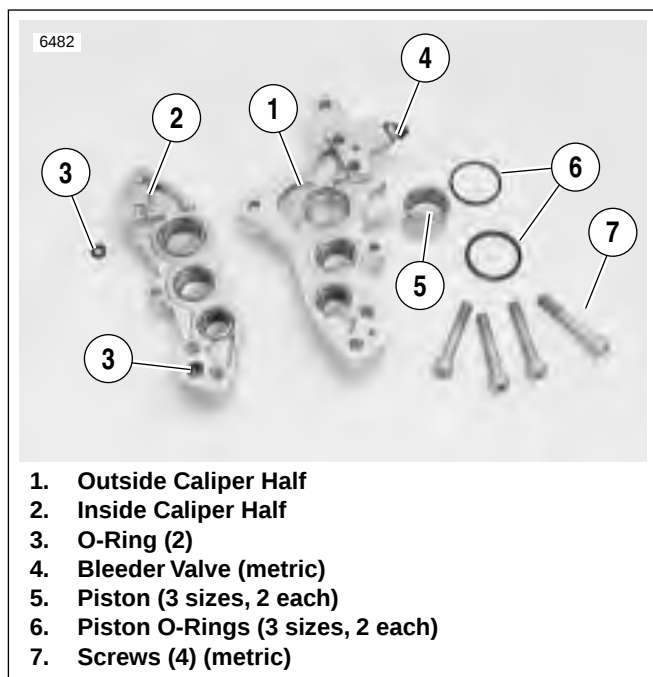

Figure 2-28. Caliper O-rings and Pistons
4. See Figure 2-28. Pry O-rings (6) out of their respective grooves on each side of caliper. Discard O-rings.
5. Check bleeder valve (4) (metric). Remove and replace if damaged.
1. See Figure 2-28. Install pistons and O-rings.
- b. Install two **new** O-rings (6) in grooves of each piston bore.
- c. Install pistons (5) in each piston bore.
2. Install two **new** O-rings (3) between caliper halves.
3. Attach caliper halves together with four screws (7) (metric). Tighten to 14.5-18 ft-lbs (20-24 Nm).
4. Install a **new** bleeder valve (4) (metric) if necessary. Tighten to 3-5 ft-lbs (4-7 Nm).